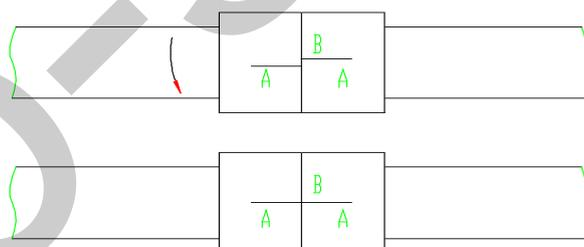

Figure 12 Marking-on processes
2.10.5 Marking-on process (shown in Figure 12)